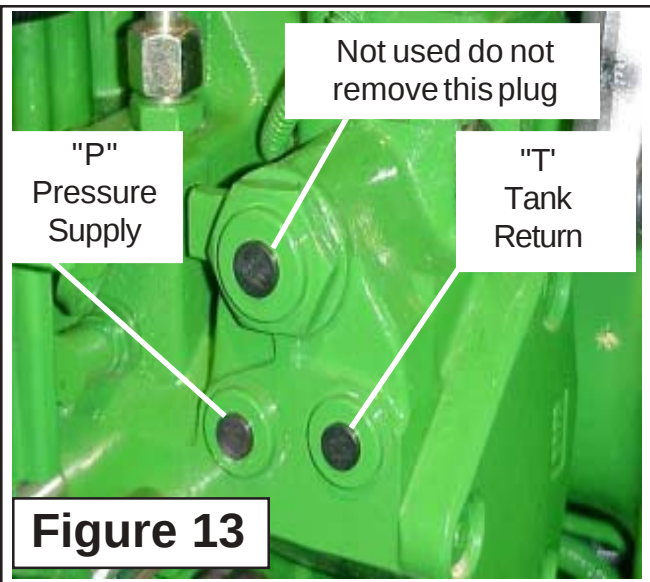
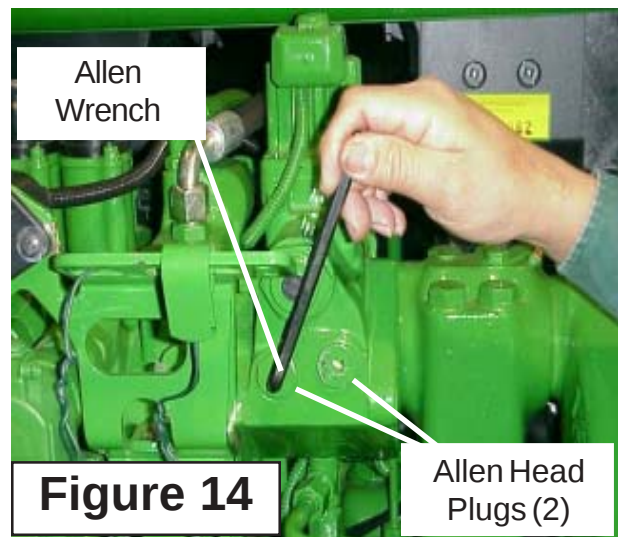

Figure 13
Figure 14
2. Identify the Pressure and Return Ports on the JD Stack Valve. These are located on the Tractor Stack valve in the rear of the Tractor. The Pressure and Return Ports will have plastic Plugs in them (**See Figure 13**). Remove the Plastic plugs and using an Allen Wrench remove the Allen Head Plugs one at a time (See Figure 14).